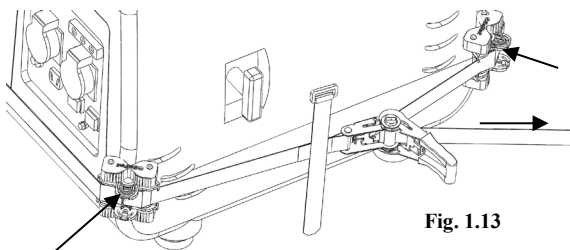

Fig. 1.13
- k.** Pull the Kevlar® Strap slack tight through the Ratchet Buckle center. Maintaining tension on the Kevlar® Strap, position the Angle Braces into the desired positions on the corners of the generator. (Fig 1.13).